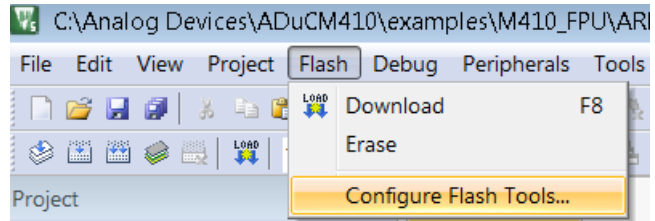

Figure 25. Keil **Flash** Dropdown Menu Options
- After opening the Keil IDE, click the **Flash** dropdown menu and select the **Configure Flash Tools** option (see Figure 25).